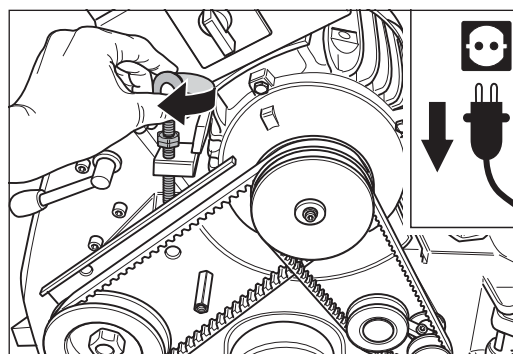

Fig. 62 Mount the V-belts and tension them by turning the eye bolt at the motor clockwise.
- 6 Mount the V-belts and tension them by turning the eye bolt at the motor clockwise (Fig. 62).